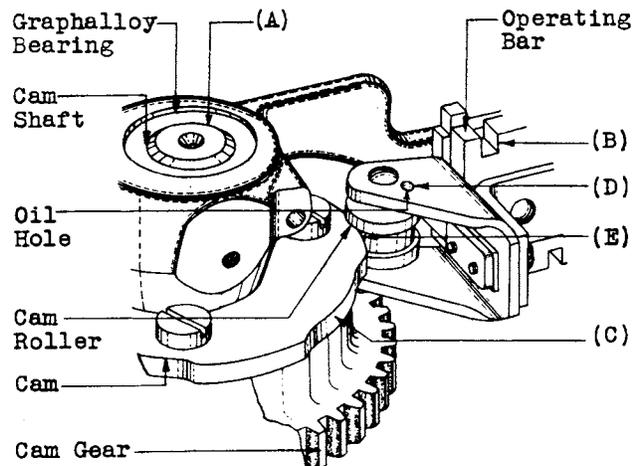

Fig. 3
(a) - Figs. 3 (A) and (B) - The operating bar and the cam shaft shall be kept free from lubricants. The operating bar shall also be kept free from dust and dirt.
(a) Gear Teeth and Cam Bearing Surface - Figs. 3 (C) and 4 (A) - The gear teeth and the cam bearing surface shall be adequately lubricated with Veedol medium cup grease.
(b) Cam Roller Bearing - Fig. 3 (D) - The cam roller bearing shall be adequately lubricated with KS-6438 oil.
(c) After turnover, it is recommended that initially, the parts covered in (a) and (b) be lubricated at intervals of one month, with the exception of the cam roller bearings on interrupters equipped with flanged rollers as shown in Fig. 3 in which case the interval shall be once in three months. These intervals may be extended if periodic inspections have indicated that local conditions are such as to insure that these requirements will be met during the extended intervals.
**2.04 Cam Roller Movement** - Fig. 3 (E) - The cam roller shall be free from bind and must make at least a partial revolution when the operating bar moves through the operated position. Gauge by eye.
**2.06 Counter-shaft and Cam Shaft Movement** - Figs. 3 (A) and 4 (B) - The counter-shaft and the cam shaft shall not bind in their bearings. This shall be determined by feel and shall be considered as met if in checking for backlash between gears no bind is noticed.